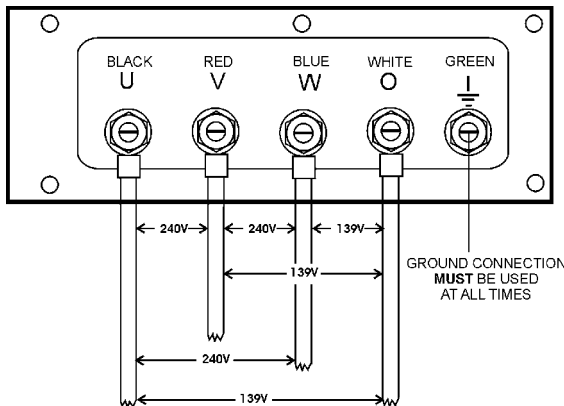

Figure 23. Output Terminal Lugs 3Ø-240/139V Connections
2. Connect the load wires to the **Output Terminal Lugs** as shown in Figure 23.
3. Turn the voltage regulator knob (Figure 23) clockwise to increase voltage output, turn counterclockwise to decrease voltage output.